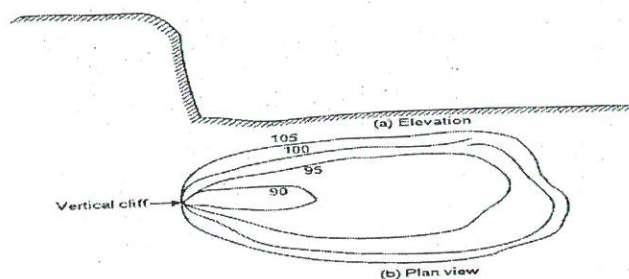

Fig. 3
11. If contour lines are meeting in some portion, it shows existence of a vertical cliff (Fig.3).